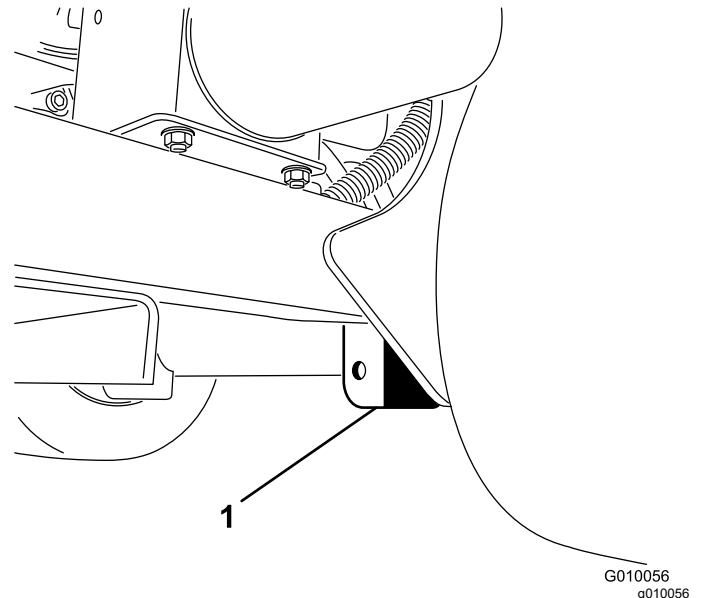

Figure 38
3. Place the jack securely under the frame plate just inside of the rear wheel (Figure 38).